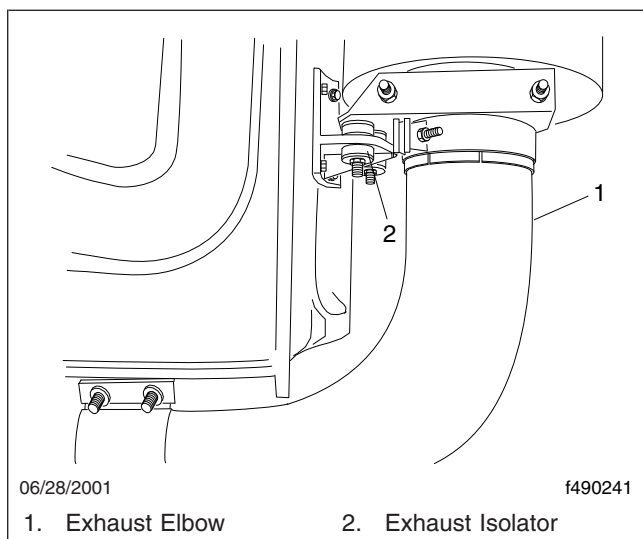

Fig. 7, Exhaust Isolator
7. Check the isolator at the base and the top of the exhaust stack (see Fig. 7) for cracking, damage, and dry rot. Replace as needed.